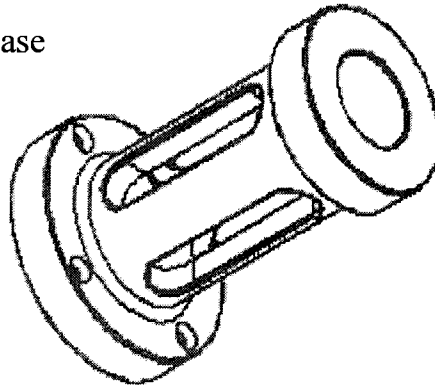

FIGURE S2
- S2** (a) Refer to design component in **Figure S2**, explain how to machine separate machines for milling, turning, drilling etc. to complete the final product. (Use some sketch to help your explanation)
- (b) Refer to design component in **Figure S2**, explain how to machine on a single turn/mill centre with counter spindle and dual turret to complete the final product. (Use some sketch to help your explanation)